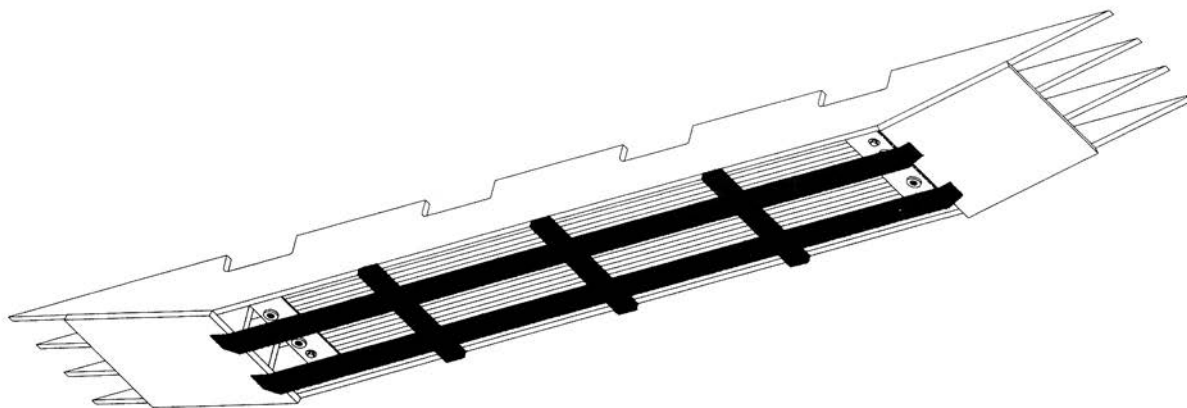

FIG. 6 *Example of external guarding*
- 1.5.4 In extreme cases, where logs, debris, or dragging bottom may endanger the unit, a protective guard may be mounted over the unit. Make certain the grill guard does not cover more than 25% of the face opening. For examples of protective guards and different installations that have been used, see Figures 6 and 7.